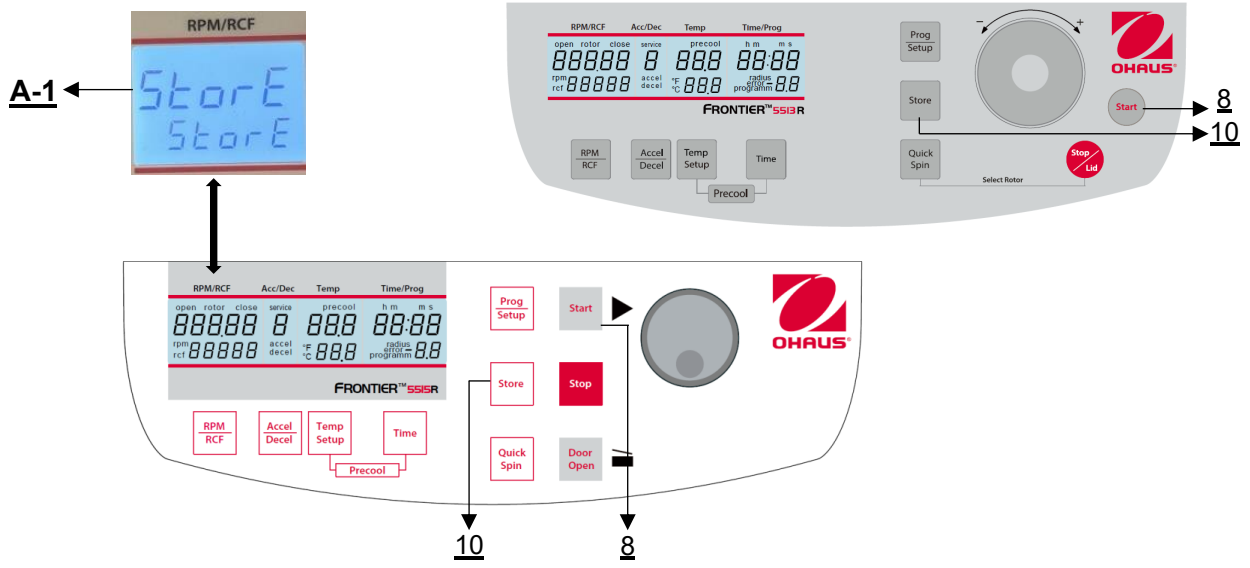

Figure 26
All changed settings must be confirmed by the key **"Start"**(8) or **"Store"** (10). The word **"Store"** appears in the display **"RPM | RCF"** (A-1) – Only then the pre-selections are valid (see Figure 26). After you have stored the settings, you can change to normal program mode again by switching off the centrifuge for a short while.